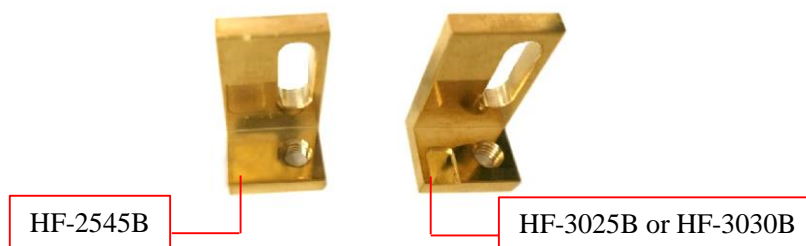
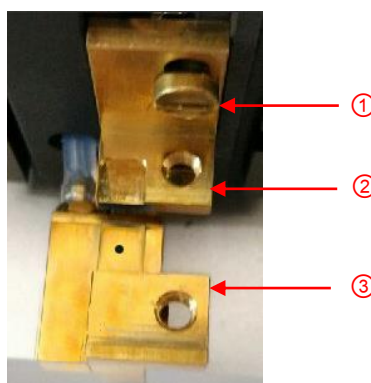

Figure 6-3
Figure 6-4
4) First check whether the jaw groove corresponds to the size of the new filament, as shown in Figure 6-3. If the size corresponds, install the new filament directly on the jaw. If the size does not correspond, unscrew the screw ① on the jaw and remove the jaw ②, as shown in Figure 6-4.
5) Replace the jaw ② corresponding to the size of the new filament, and tighten the screw ①. Note that the jaw groove ② should be flush with the jaw ③, as shown in Figure 6-4.